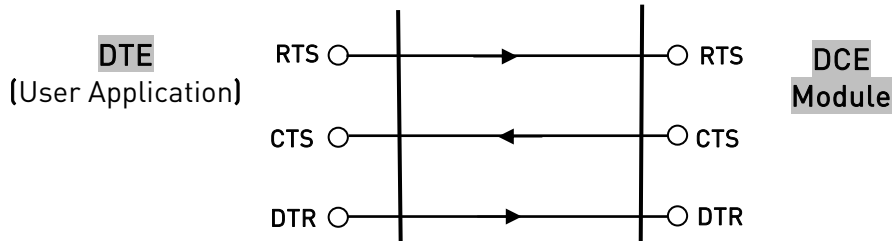

fig. 4: Control Serial lines
- RTS line ON (low, 0V on UART, default state) causes the module (DCE, see fig. 4) to assume the data channel transmit mode; the User Application is not going to send any AT commands. The module, accordingly with its transmitting needs, can save energy by shutting down its serial port;